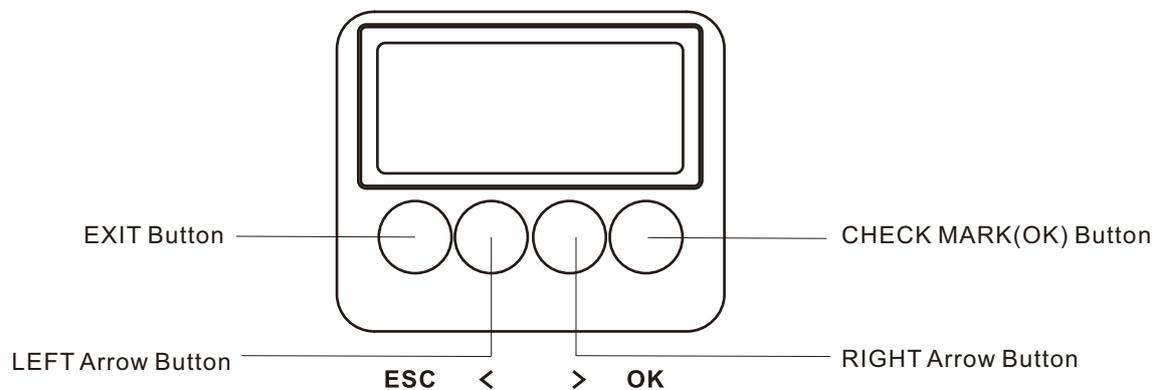

Figure 8: LCD Display and Menu System
Step 2. Press the desired button (as shown in **Figure 8**) to access menu categories.